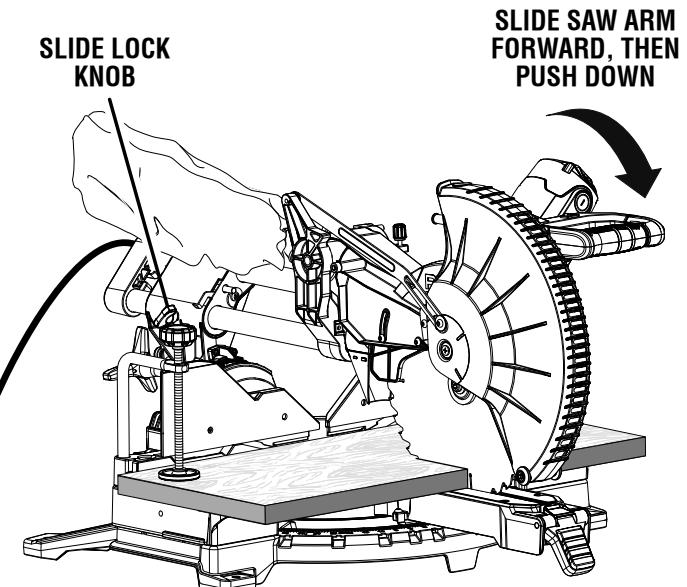

Fig. 41
See Figures 41 - 42.
- With the saw off, pull the saw arm forward. Turn the saw on (let blade reach maximum speed), then push the blade down on top of the workpiece then back toward the rear of the saw to make a cut. See Figures 41 and 42.